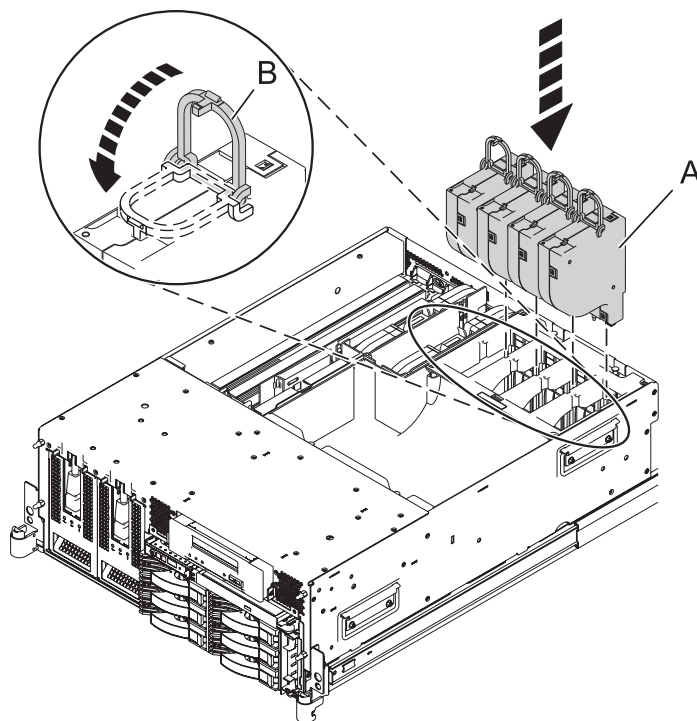

Figure 19. Replacing the fans
16. Replace the fans **(A)** and secure each of the fan pull tabs **(B)** as shown in Figure 19.